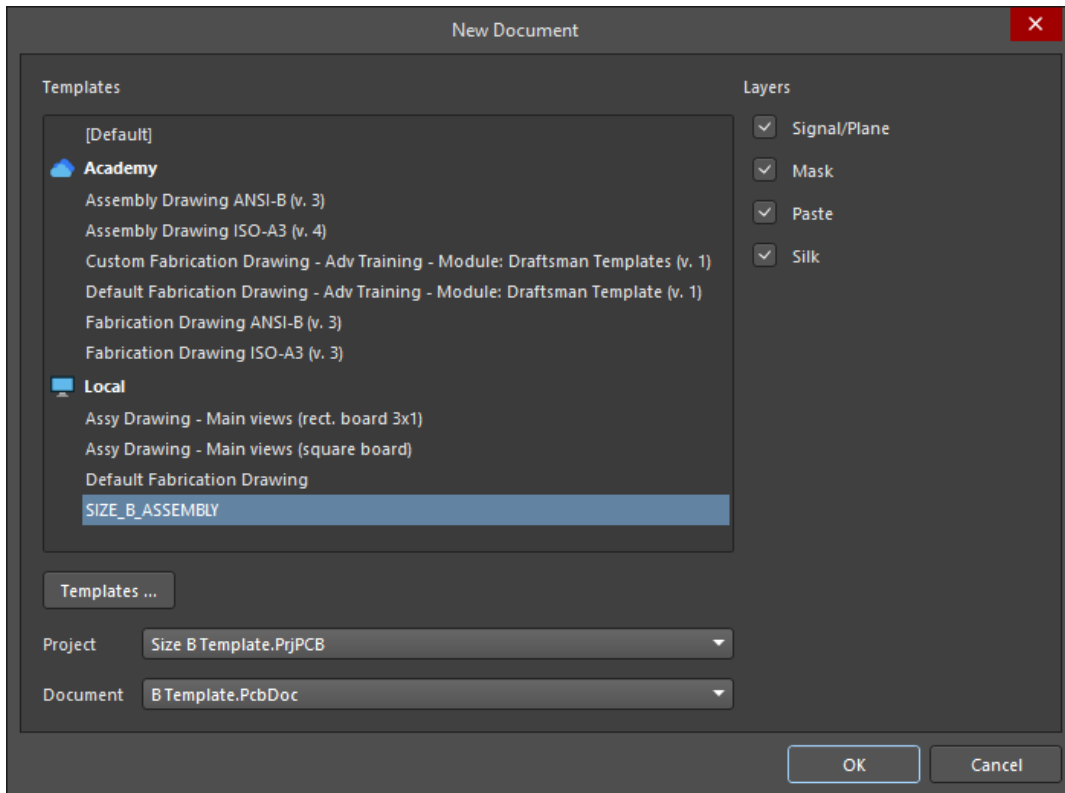

Figure 13. Choose the Draftsman template
54. In the New Draftsman Document dialog, choose the `SIZE_B_ASSEMBLY` template from the local section and click **OK** (see Figure 13, which may look different based on any servers you're connected to).